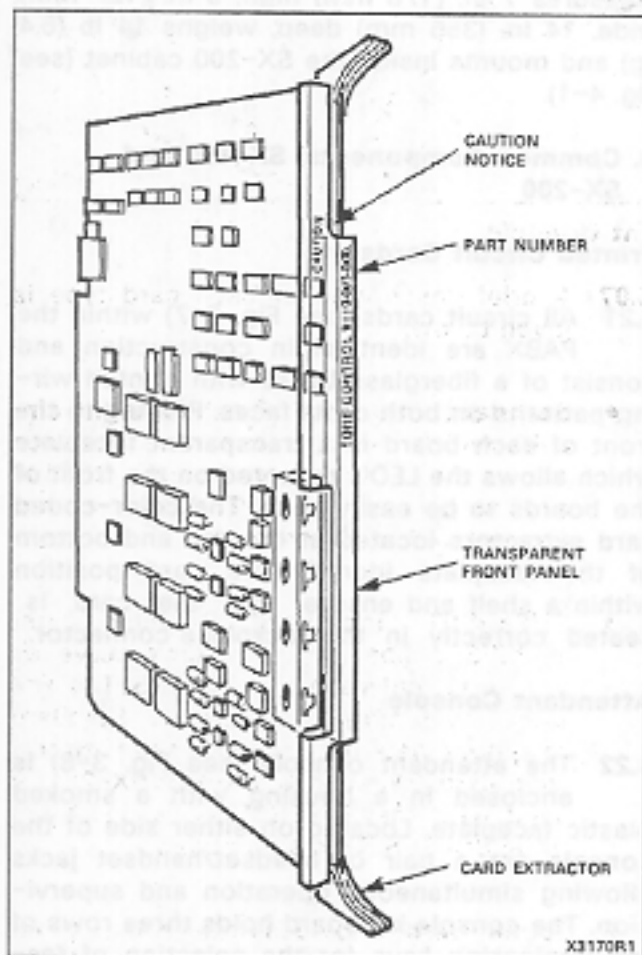

Fig. 3-7 Typical Printed Circuit Card
3.21 All circuit cards (see Fig. 3-7) within the PABX are identical in construction and consist of a fiberglass board with printed wiring patterns on both of its faces. Riveted to the front of each board is a transparent faceplate which allows the LED's mounted on the front of the boards to be easily seen. The color-coded card extractors located at the top and bottom of the faceplate identify the card position within a shelf and ensure that the card is seated correctly in the backplane connector.